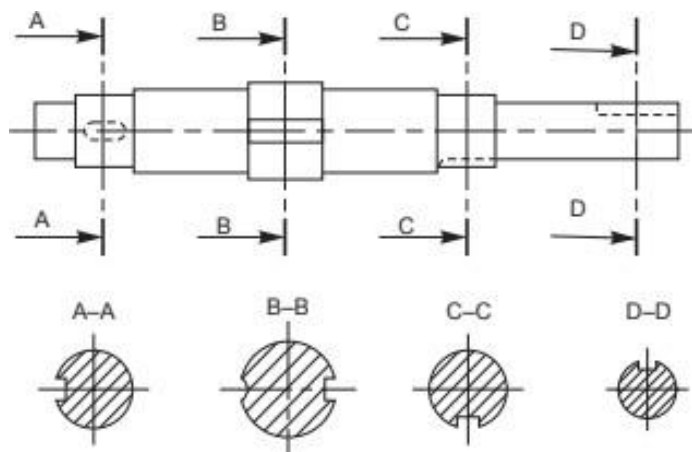

Fig. 2.25 Successive sections
3. Arrangement of successive sections: Successive sections may be placed separately, with designations for both cutting planes and sections (Fig. 2.25) or may be arranged below the cutting planes.